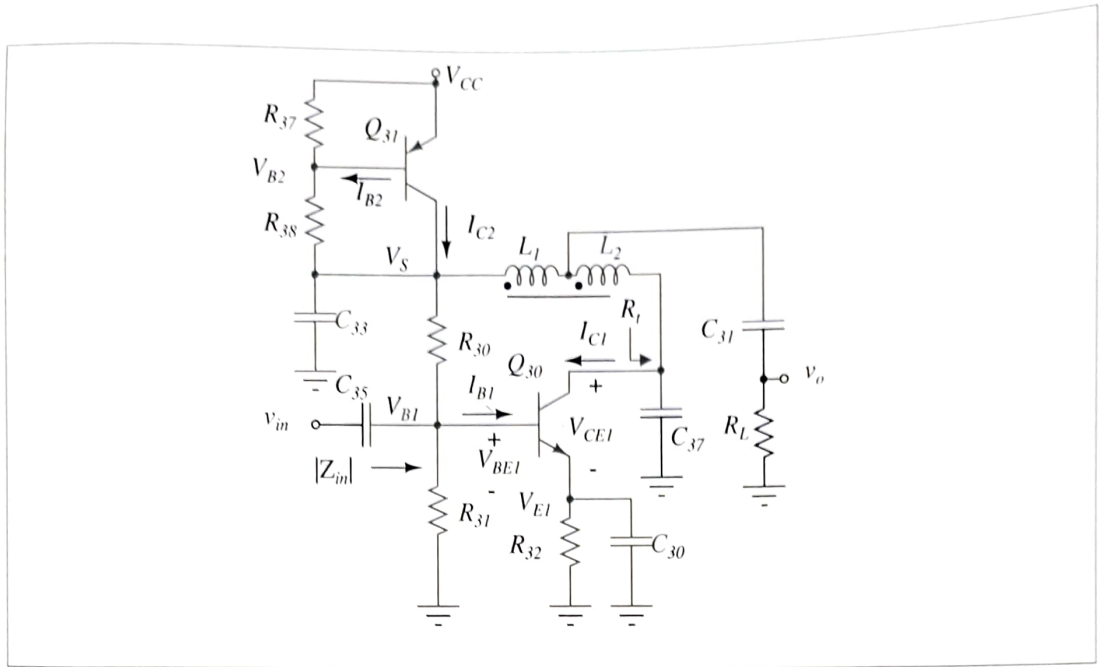

Figure 1: Schematic of transmitter amplifier.
1. A tuned RF amplifier that acts as the transmitter amplifier of TRC-11 can be built using a BJT, Q30. BJT to be used is a more powerful NPN transistor, 2N2222. Inspect the datasheet given in 382. It can handle currents up to 600 mA and voltages up to 40 V. It can dissipate up to 625 mW power at room temperature. These values are considerably high compared to KSP10 used earlier. Refer to the circuit given in Fig. 1. It is a Class-A power amplifier intended to drive an antenna. R_L is the load to be driven (it is actually the real part of the antenna impedance to be discovered later). The power delivered to R_L is the transmitted RF power into the air when the antenna is used. Actually, the output power is intentionally kept low, not the violate local RF transmission limits in this frequency band. C_{31} is a DC block capacitor. L_1 , L_2 and C_{37} form a impedance transformation network, that transforms R_L into an optimal impedance for the transistor.